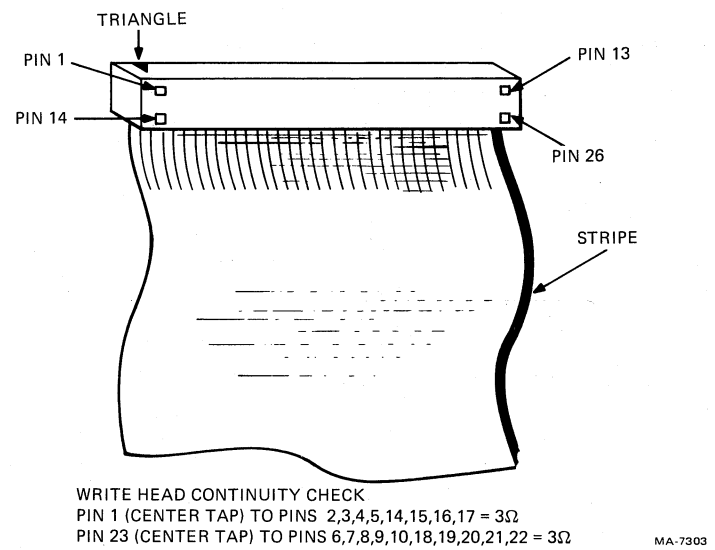

Figure 6-38 Write/Erase Head Plug (P6) Test Points
18. If all nine channels are acceptable, the write head is probably defective. To check, stop the tape and unload it and remove power from the transport. Measure the resistance of each write head winding using Figure 6-38 as a guide. Keep in mind that each write head winding is center tapped. Each half of the winding should measure approximately 3 ohms. If any winding shows open or shorted, replace the head assembly following the procedure in Paragraph 6.7.1.